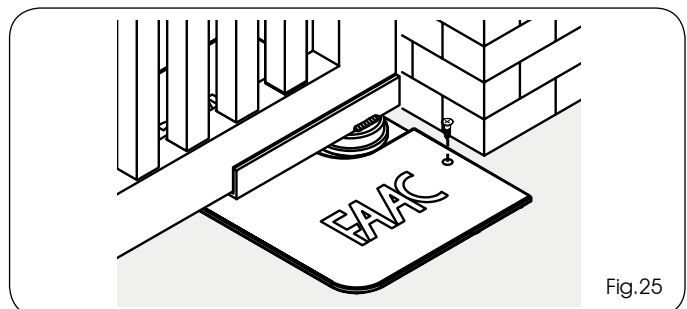

Fig.25
- 4) UNSCREW the travel-limit stop screw (Fig.25 ref.B) at closing (Fig.25 ref.①), until the leaf begins to move.